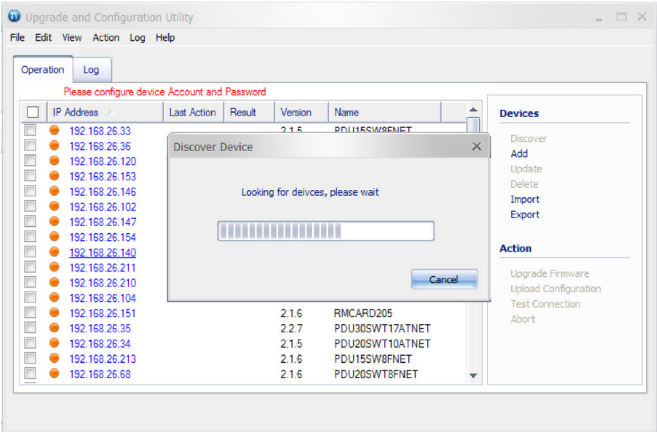

Figure 1
- Wait for search to finish (Shown in Figure 1).